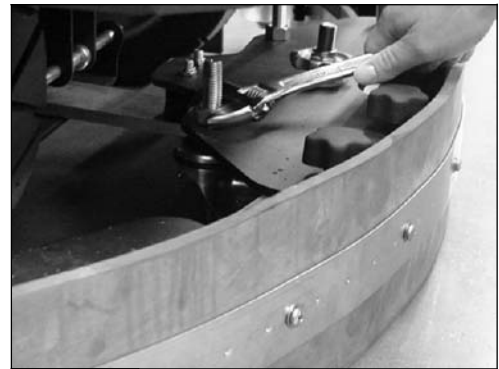

FIGURE 19.
2. TO ADJUST CASTERS LOOSEN LOCKING NUT (SEE FIGURE 19.)